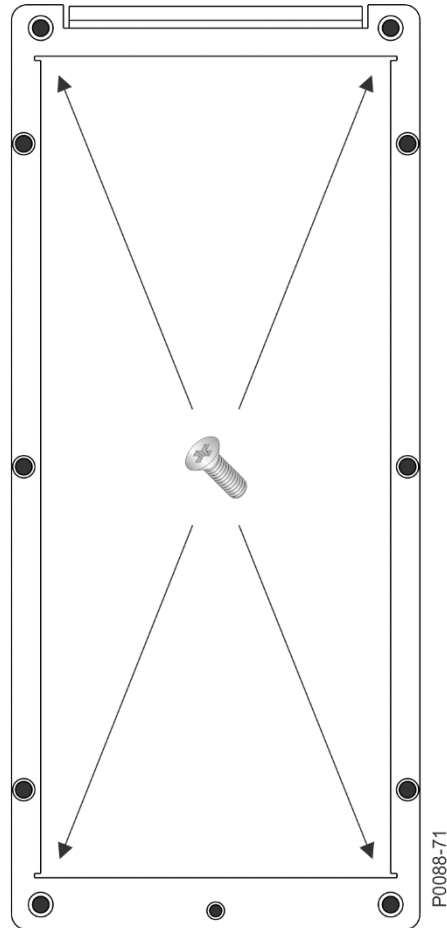

Figure 3. Cover Adaptor Mounting Detail
- a. Orient the adaptor as shown in Figure 3 with its gasket positioned against the PVD case.
- b. Secure the adaptor with the provided screws at the locations shown in Figure 3. The maximum torque rating for each screw is 30 inch-pounds (3.4 N•m).